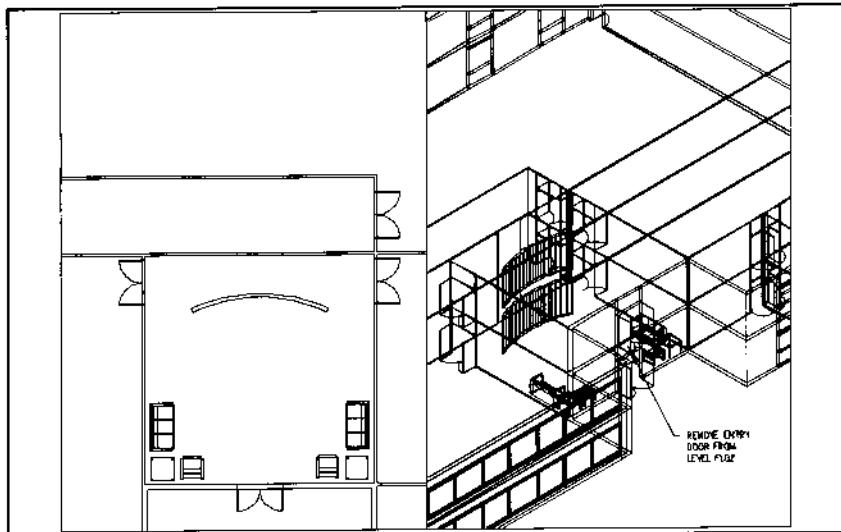

Figure 19.
5. The entry door before and after removal is shown in Figures 19 and 20.